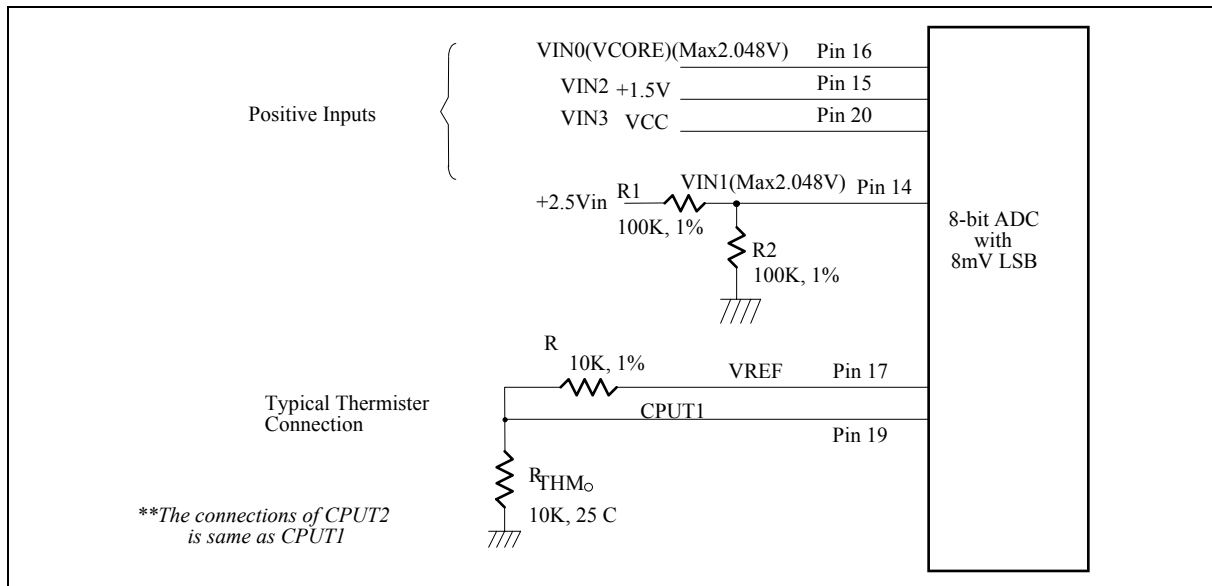

Figure. 3.
The maximum input voltage of the analog pin is 2.048V because the 8-bit ADC has the 8mv LSB. Actually, the application of the voltage monitoring would most often be connected to power suppliers. The +1.5V voltage can directly connected to these analog inputs. The +2.5V and CPU VOCRE, the inputs higher than 2.048V, should be reduced a factor with external resistors so as to obtain the input range. As Figure 3 shows.
The W83L785R/G can connect two thermistors to measure three different environment temperature or remote temperature. The specification of thermistor should be considered to (1) β value is 3435K, (2) resistor value is 10K ohms at 25°C. In the Figure 3, the themistor is connected by a serial resistor with 10K Ohms, and then connected to VREF (pin 17).